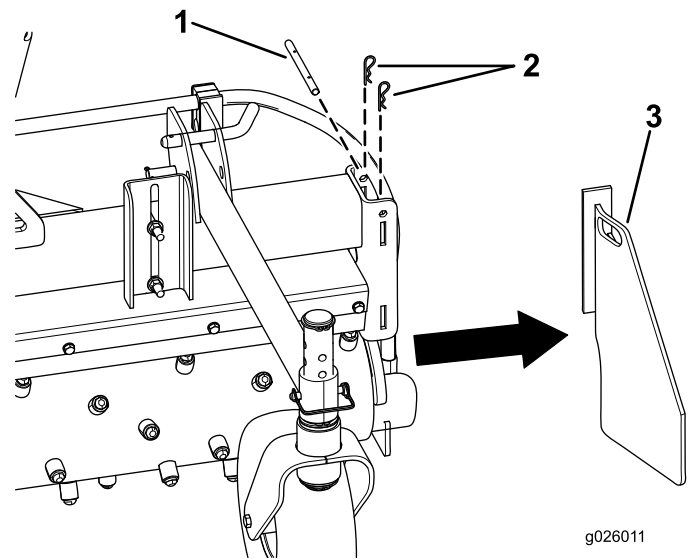

Figure 8
1. Remove the 2 hairpin cotters from the end-plate pin (Figure 8).
2. Remove the end-plate pin from the end plate (Figure 8).
3. Remove the end plate (Figure 8).